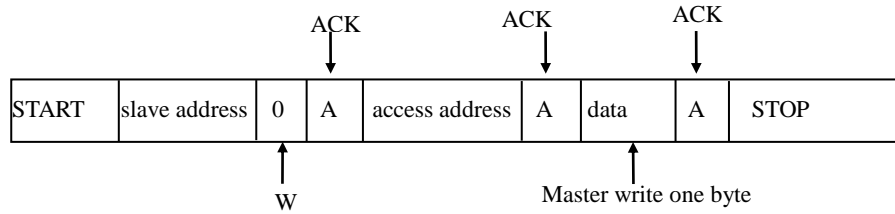

Figure 16-7 Master write one byte data to slave
As Figure 16-7 shown, when master send one byte to slave, first master send a start signal, and a slave address followed, the address has 7bits, then the 8th bit followed is data direction bit(R/W), 0 indicates master send data (write), 1 indicates master receive data (read), this time master wait slave give a acknowledge(A), when master received an acknowledge signal, send the address will be accessed, and wait slave give an acknowledge again, then master will send one byte data after received an acknowledge, and continuous to wait slave give an acknowledge, when master received the acknowledge, it will generate a stop signal, and end the transmission.
As Figure 16-7 shown, master read one byte data from slave, first master sends a START signal, then follows a slave address, the 8th bit of the address is 0, it indicates a write command to slave, the master wait slave give an acknowledge(A) at this time, when master received an acknowledge signal, send the address will be accessed, and wait slave give an acknowledge again, then master will change the communication mode(master changed from transmitter to receiver, slave changed from receiver to transmitter) after received an acknowledge. So master send a restart signal, then follows a slave address, the 8th bit is 1, it indicates master has been set receive mode and start to receive data, this time master wait an acknowledge from slave, when master received acknowledge signal, then it can receive one byte data, when receive is completed, master send a no acknowledge signal, it indicates receive end, master generates a stop signal, and end the transmission.